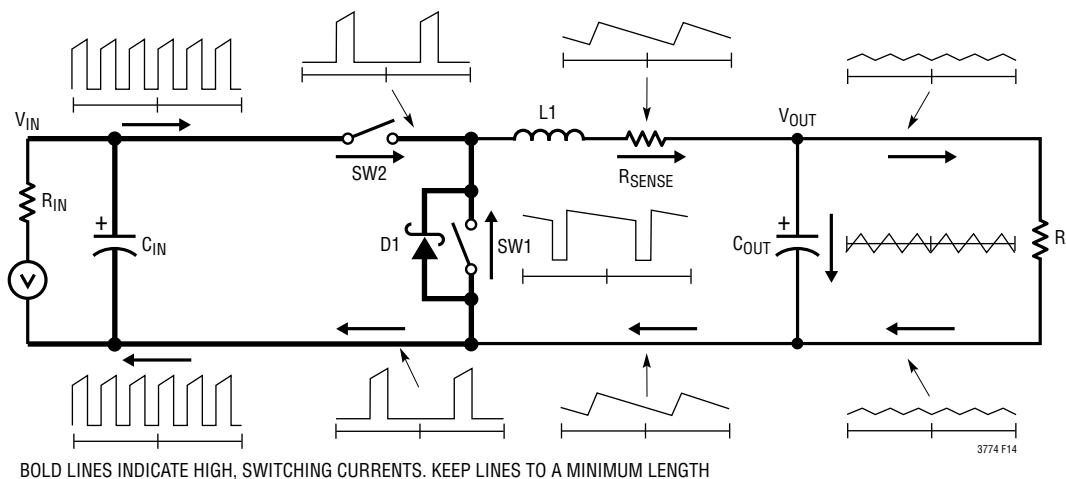

Figure 14. Branch Current Waveforms
When laying out the printed circuit board, the following checklist should be used to ensure proper operation of the IC. These items are also illustrated graphically in the layout diagram of Figure 14. Check the following in the PC layout:
- The 47pF to 330pF ceramic capacitor between the  $I_{TH}$  pin and signal ground should be placed as close as possible to the IC. Figure 14 illustrates all branch currents in a switching regulator. It becomes very clear after studying the current waveforms why it is critical to keep the high switching current paths to a small physical size. High electric and magnetic fields will radiate from these *loops* just as radio stations transmit signals. The output capacitor ground should return to the negative terminal of the input capacitor and not share a common ground path with any switched current paths. The left half of the circuit gives rise to the *noise* generated by a switching regulator. The ground terminations of the synchronous MOSFET and Schottky diode should return to the bottom plate(s) of the input capacitor(s) with a short isolated PC trace since very high switched currents are present. External OPTI-LOOP® compensation allows overcompensation for PC layouts which are not optimized but this is not the recommended design procedure.